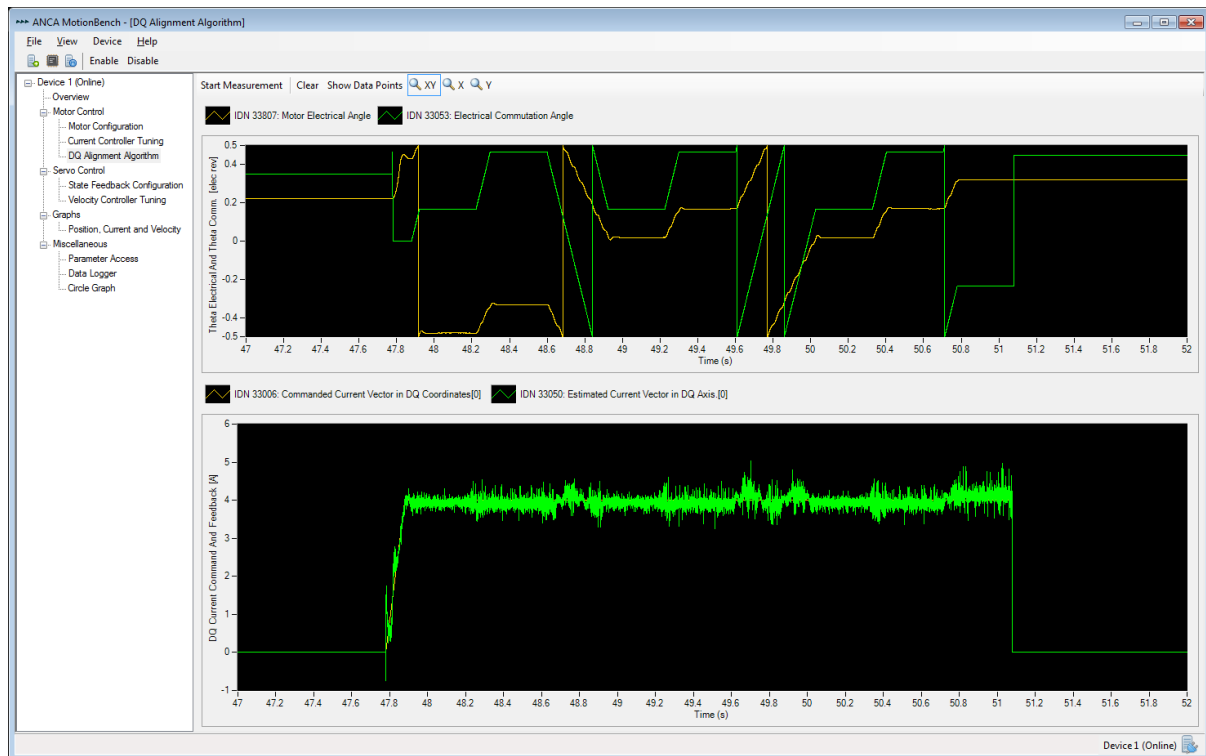

Figure 7-13 - Motor Electrical Angle diverges from Motor Commutation Command. Likely cause: incorrect number of motor poles and/or incorrect encoder resolution.
- *Figure 7-13* shows an example of the Motor Commutation Command and the Motor Electrical Angle diverging. This will lead to E403. The likely cause is: incorrect number of motor poles (IDN 32774) and/or incorrect encoder resolution (IDN 116).